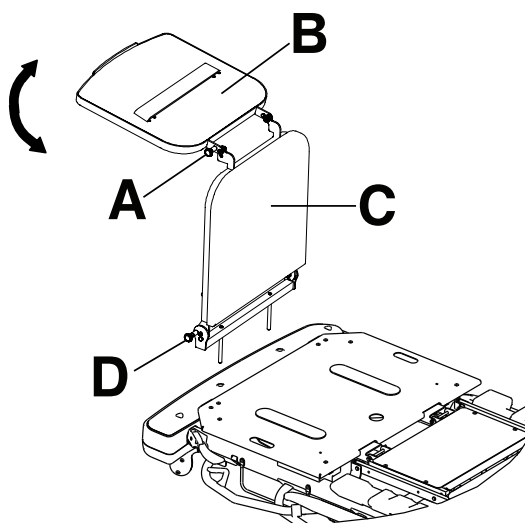

Figure 11 – Defibrillator tray/foot extender
1. Pull out the top knob (A) (Figure 11).
2. Pivot the defibrillator tray (B) until the tray is flat over the foot end of the product. Release the top knob (A). Make sure that the defibrillator tray is locked in place.
To convert the defibrillator tray/foot extender to a foot extender (Figure 11):